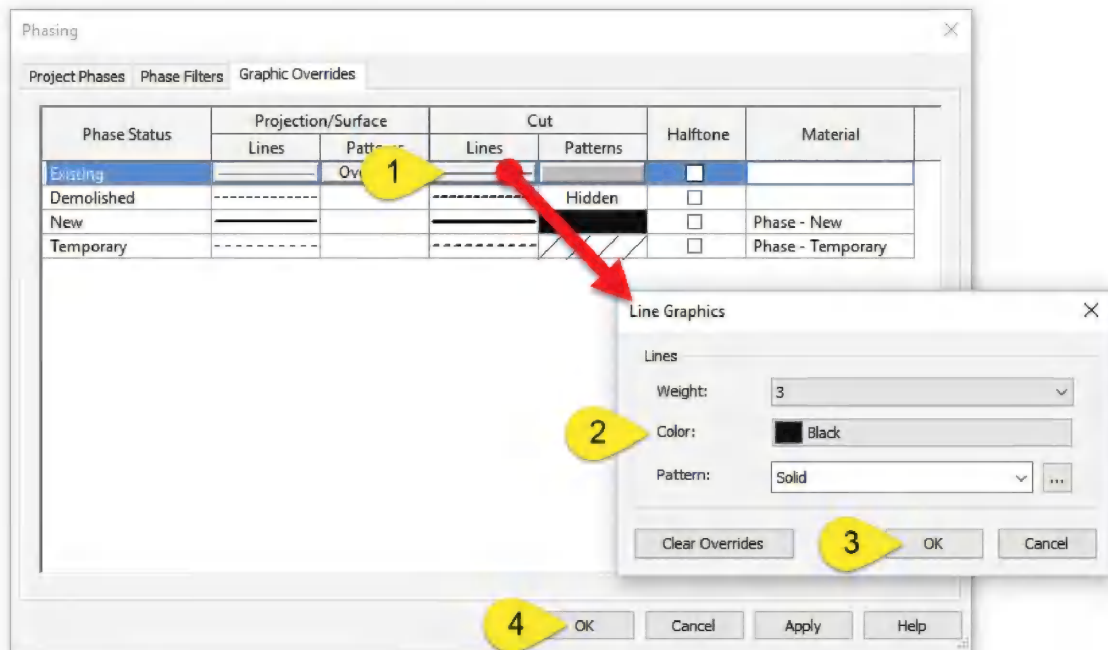

FIGURE 16-3.6 Graphic Overrides tab; Phasing dialog
14. Make the following change in the Phases dialog to adjust the lines to black for existing elements (Figure 16-3.6).